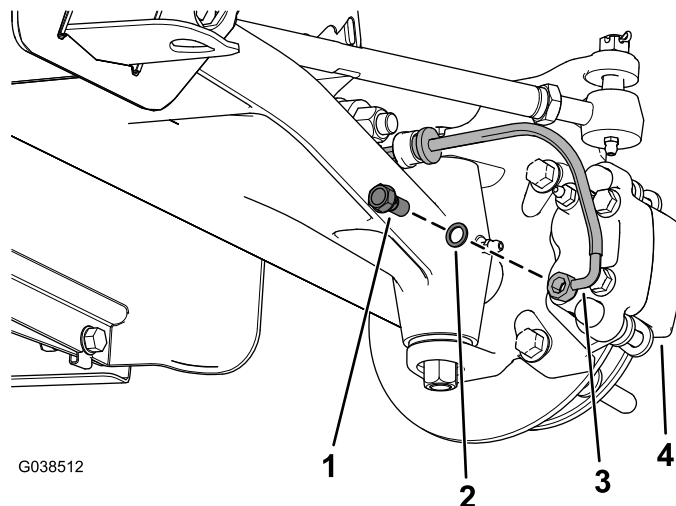

Figure 3
3. Remove the banjo bolt and washer from the brake-caliper assembly, and remove the front brake line from the brake-caliper assembly (Figure 3).
13. Install the front brake line to the brake-caliper assembly using a banjo bolt and 2 banjo washers (Figure 3).